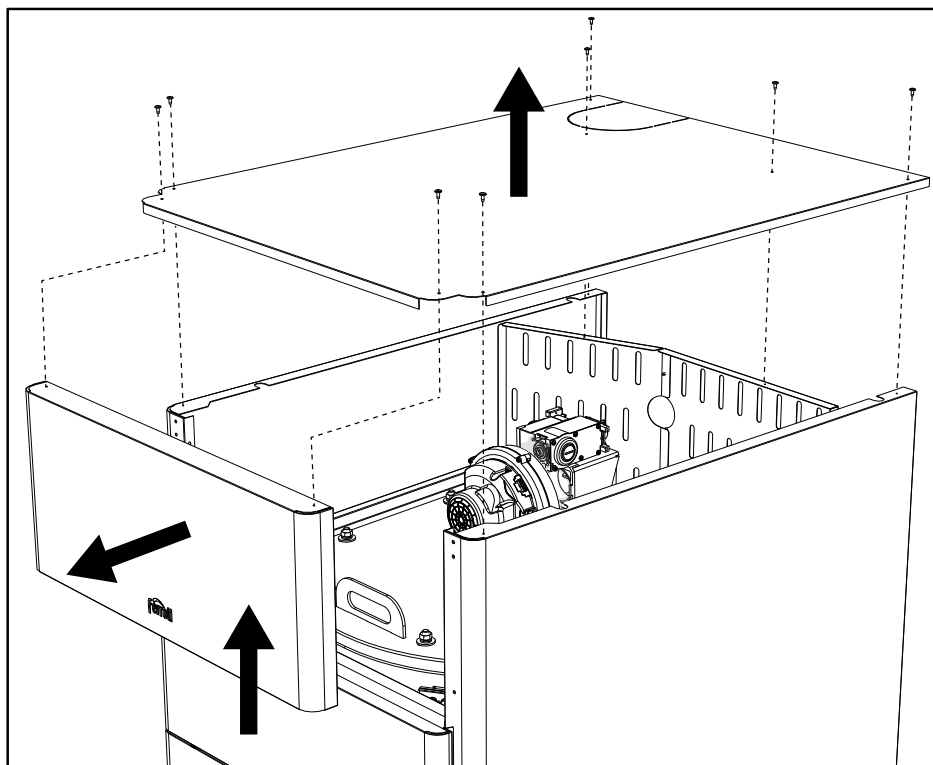

fig. 68
- Remove the cover and front panel (fig. 68).